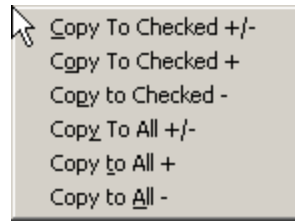

Figure 15-8: Copy Deviation Pop-up Menu
- Right clicking on a deviation displays the Copy Deviation pop-up menu, which allows the copying of the selected deviation value to other points under the frequency. Each choice is defined below Figure 15-8.